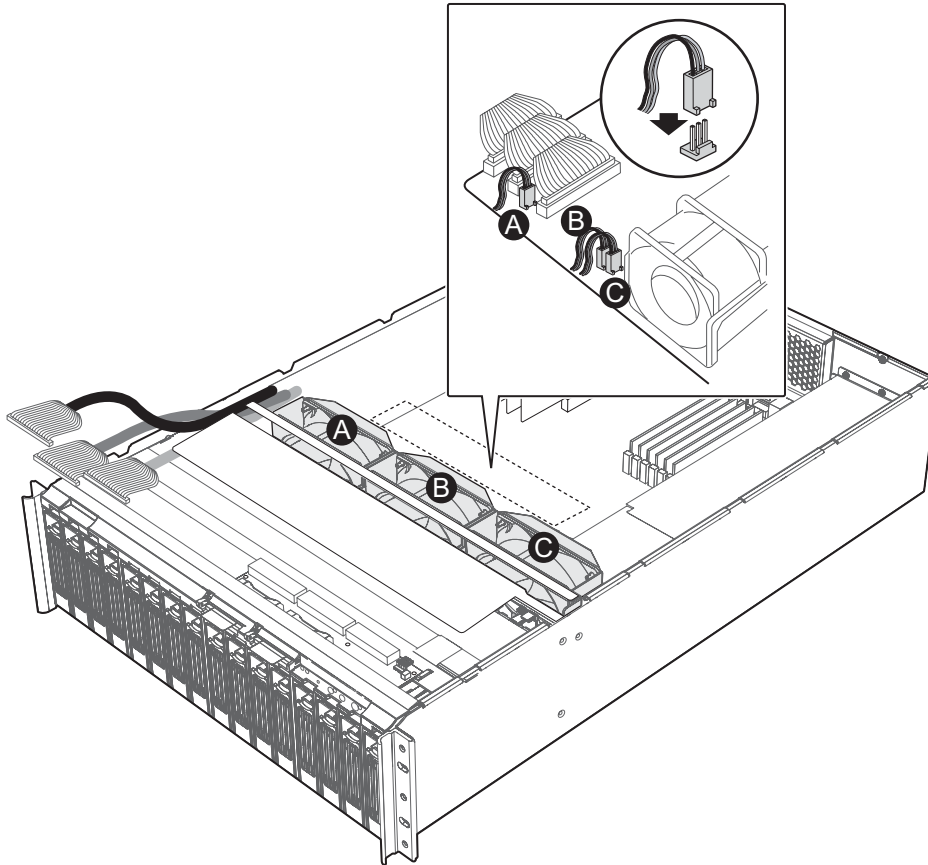

Figure 17. Re-attaching the System Fan Assembly Connectors
- A. Re-connect the wire connector for Fan 3 to the baseboard. See Figure 17.
- B. Re-connect the wire connector for Fan 4 to the baseboard. See Figure 17.
- C. Re-connect the wire connector for Fan 5 to the baseboard. See Figure 17.